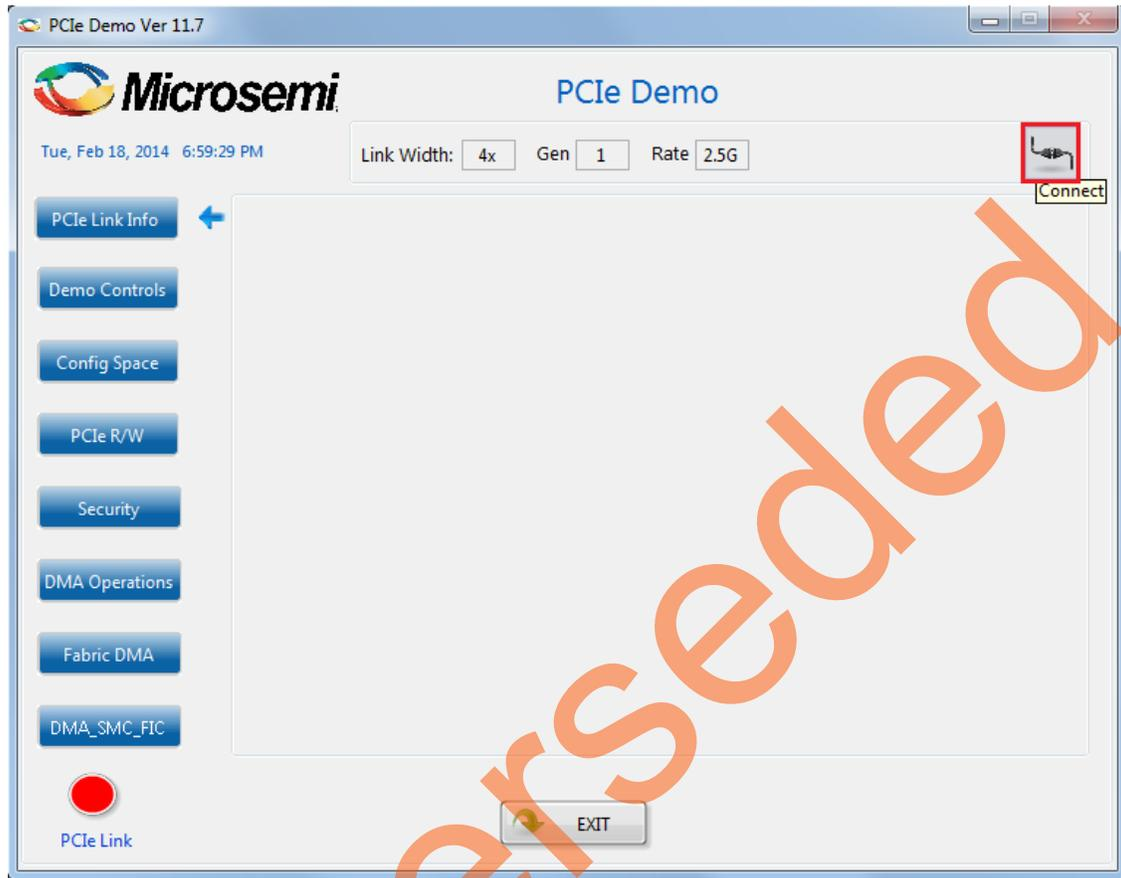

Figure 18 • PCIe\_Demo Application
3. Invoke the PCIe\_Demo application from **ALL Programs > PCIe Demo > PCIe Demo GUI**. Figure 18 shows the PCIe\_Demo launch window.